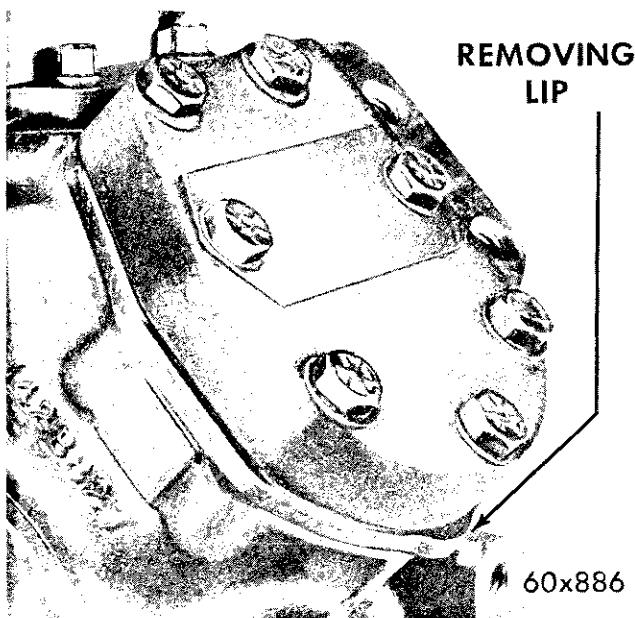

Fig. 54—Valve Plate and Head Removing Lip
(1) Remove the oil return tube from the evaporator pressure regulator valve and compressor.
(2) Remove the cylinder head bolts and the head and valve plate assembly. If the plate does not separate from the head, tap the removing lip on the valve plate lightly with a plastic hammer (see Fig. 54). Do not pry apart.